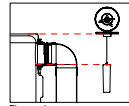

Figure 1
2. Whilst holding the base of the Transmitter at the same height as the previously drilled installation hole, slowly lower the float (no faster than 10cm/second) until the top of the float is level to the bottom of the overflow outlet (see Figure 1), and press SET once to confirm FULL height.
3. Hold the base of the Transmitter at the same height as the installation hole and move the float so its top is level to the bottom of the overflow outlet, see Figure 1 in "Tank Height Setting".